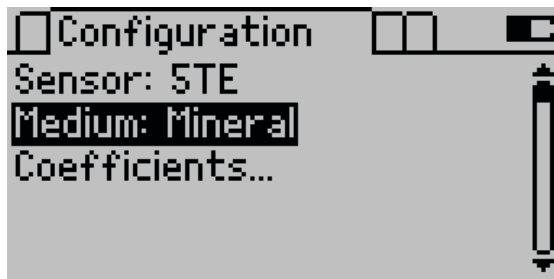

Figure 11 Toggle the medium type for calibration
4. Highlight Medium (Figure 11).